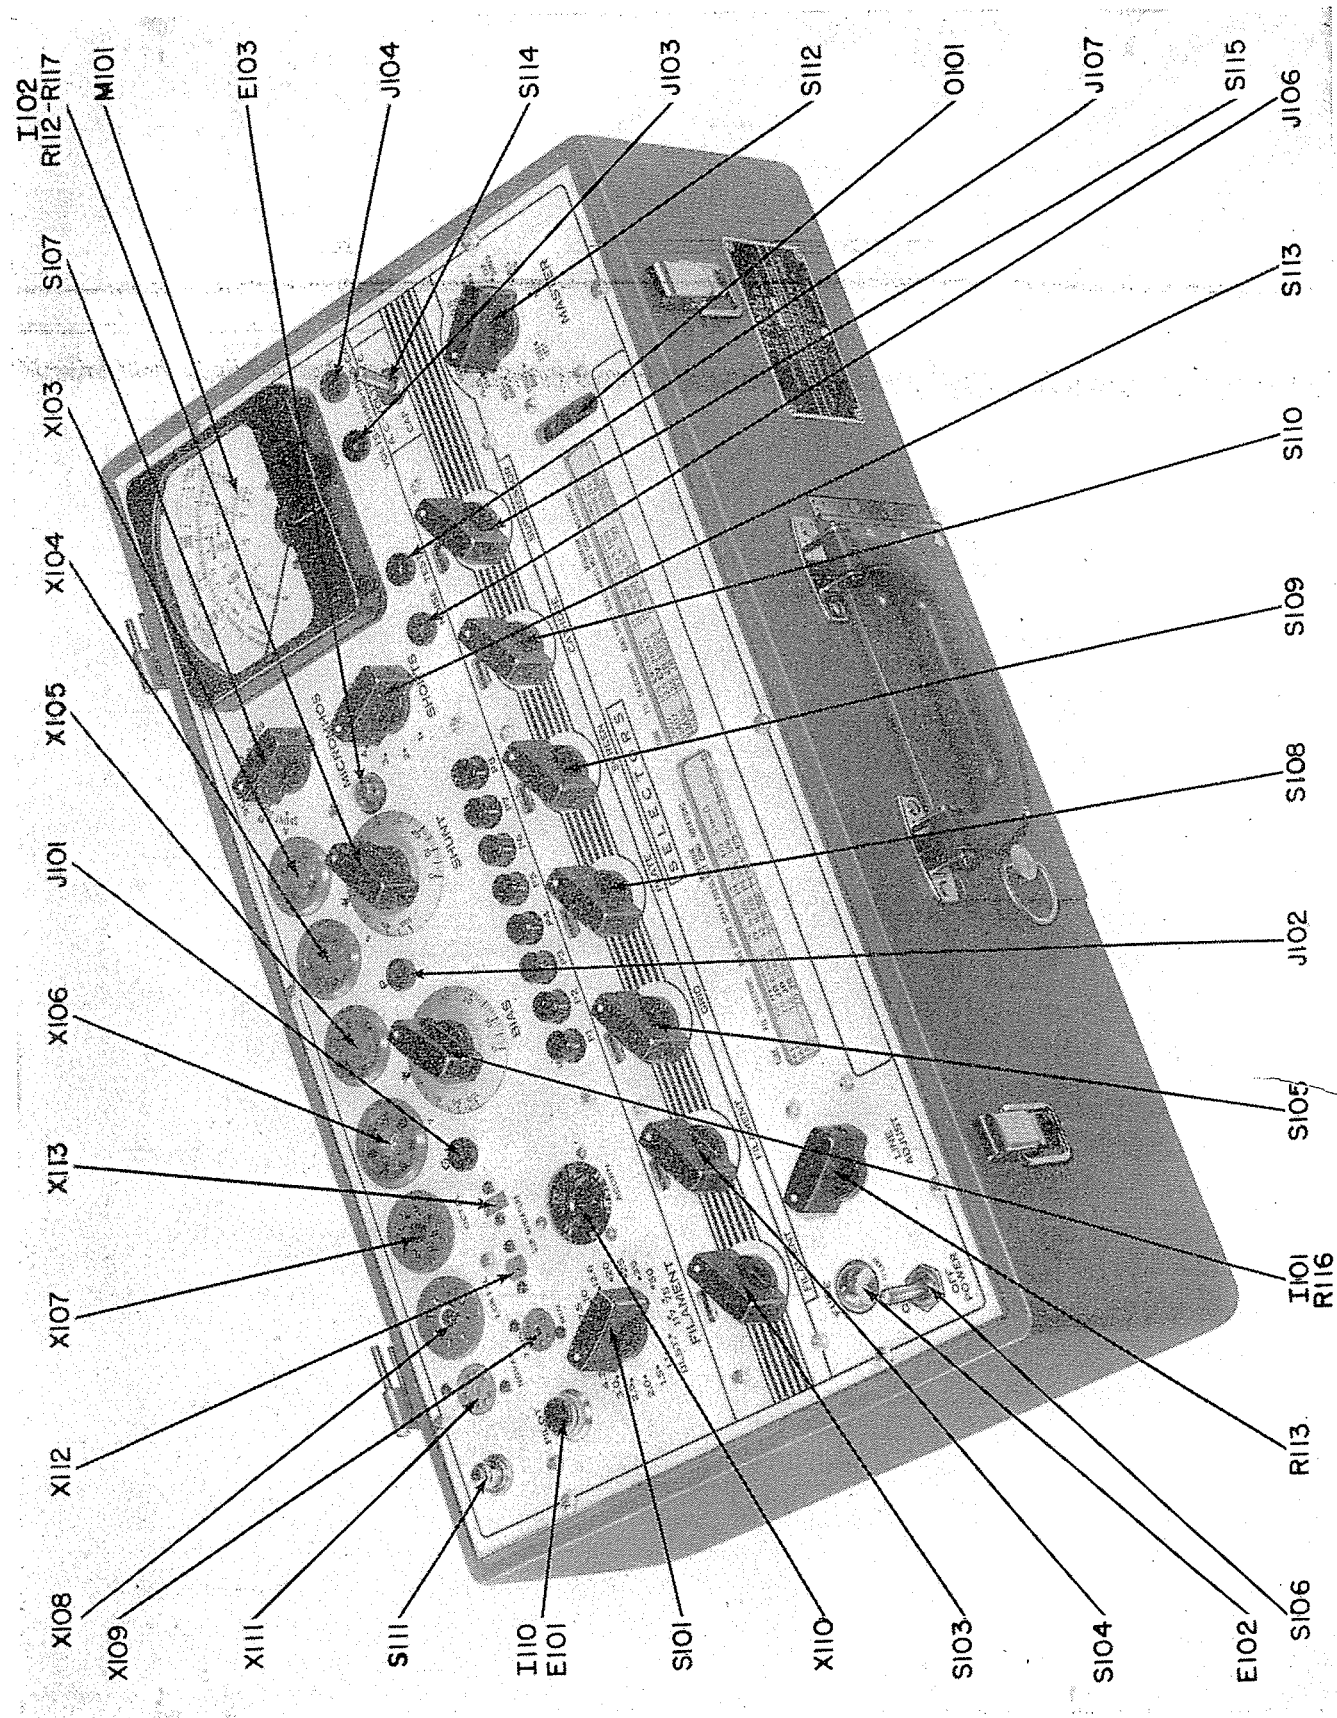

Figure 4-1. Front View of Tube Tester TV-3A/U Showing Controls by Symbol Designation
a. Refer to the photograph of the Tube Tester TV-3A/U, Figure 4-1, or preferably to the *tester itself*.
(1) The tube sockets are grouped along the top edge and in the upper left hand section of the panel as follows. Along the top edge reading from left to right are standard sockets for noval 9 pin miniature tubes, standard 8 pin loktal and octal tubes, a dual socket for large and small radius 7 pin tubes which also provides a pilot lamp test receptacle, and standard 4, 5, and 6 pin tubes. A 7 pin miniature socket and two subminiature sockets, one round 8 pin and one in line 7 pin are found at the right of the PILOT indicator light. An acorn tube socket designed to accommodate all tubes of this type now in use is located at the right of the FILAMENT voltage switch.